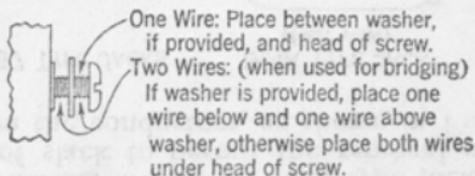

Fig. 1
2.01 When terminating wiring at jacks, place end of each conductor $\frac{3}{4}$ way around screw in a clockwise direction with insulation $\frac{1}{8}$ inch from screw head or washer if provided. Conductors should be arranged as shown in Fig. 1.